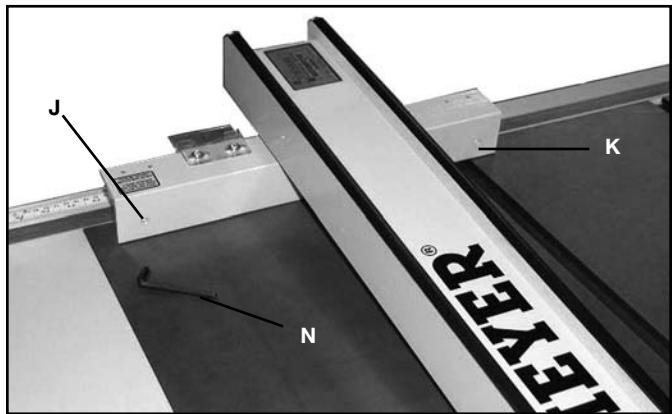
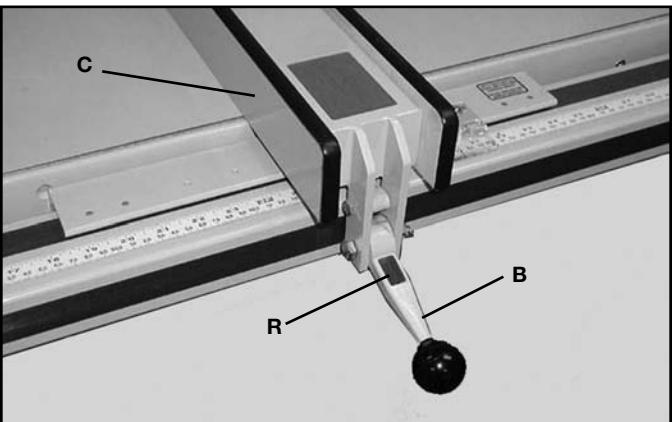

FIG. 27
FIG. 28
4. The fence (C) Fig. 26, must be adjusted so it is parallel to the miter gage slot. Slide the fence until the bottom edge is in line with the edge of the miter gage slot as shown and push down on locking handle (B). Check to see if the fence (C) is aligned with the miter slot the entire length of the table. If an adjustment is needed, lift fence (C) off the guide as shown in Fig. 27. Slightly tighten or loosen adjusting screws (J) or (K), using a 3/16" Allen wrench (N), not included. Replace the fence on the guide tube and check again. Repeat this adjustment until you are certain the fence is parallel to the miter gage slot. **NOTE: Very little movement of the adjusting screws is necessary to adjust the fence.**
5. When the fence locking handle (B) Fig. 28, is pushed to the down position, the fence assembly (C) should be completely clamped to the guide tube. If the fence assembly (C) is not completely clamped to the guide tube when the handle is pushed down, as shown, lift up handle (B) and raise fence off the guide tube as shown in Fig. 27. Slightly tighten the two adjusting screws (J) and (K) (if the fence is too loose) or loosen (if the fence is too tight), using a 3/16" Allen wrench (N), not supplied. NOTE: Screws (J) and (K) should be tightened or loosened an equal amount. Replace the fence back on the guide tube and recheck to see if the fence assembly is completely tightened to the guide tube with the locking handle (B) pushed down. Adjust further if necessary.
7. To move the fence along the guide tube, simply lift up the locking handle (B) Fig. 30, as shown, slide the fence to the desired position on the guide, and push down locking handle (B) Fig. 28 as shown, to lock in position. **NOTE: A magnet (R) Fig. 28, is provided to hold the handle in the up position when moving the fence.**